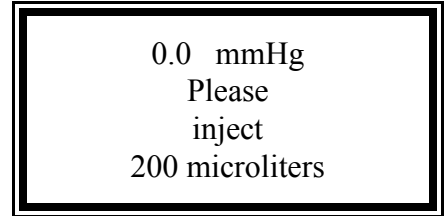

Figure 3-1 *The prompt to inject solution*
1. Press **PROMPT** on the front panel to set the osmometer to prompted mode. The display should appear as shown in Figure 3.1.